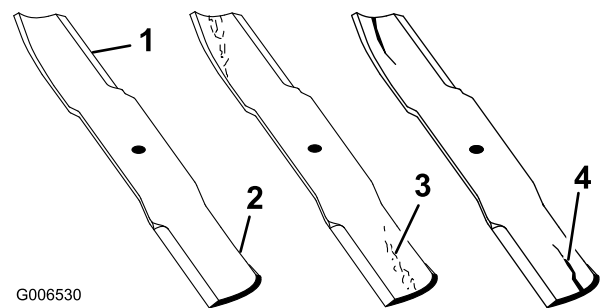

Figure 86
1. Inspect the cutting edges (Figure 86).
2. Inspect the blades, especially the curved area (Figure 86).
If you notice any damage, wear, or a slot forming in this area (Figure 86), immediately install a new blade.